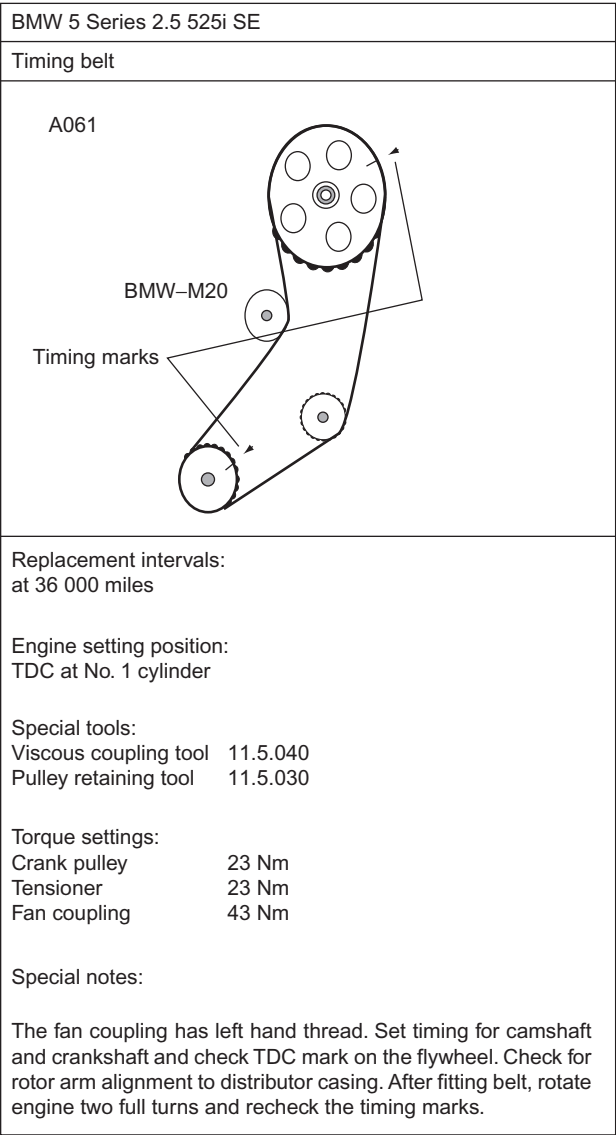

Figure 6.3 Timing belt data
- **Camshaft drive belt** – Camshaft drive belts have become very popular. The main reasons for this are that they are quieter, do not need lubrication and are less complicated. They do break now and then, but this is usually due to lack of servicing. Cam belts should be renewed at set intervals. Figure 6.3 shows an example of the data available relating to camshaft drive belt fitting. This is one of the many areas where data is essential for diagnostic checks.